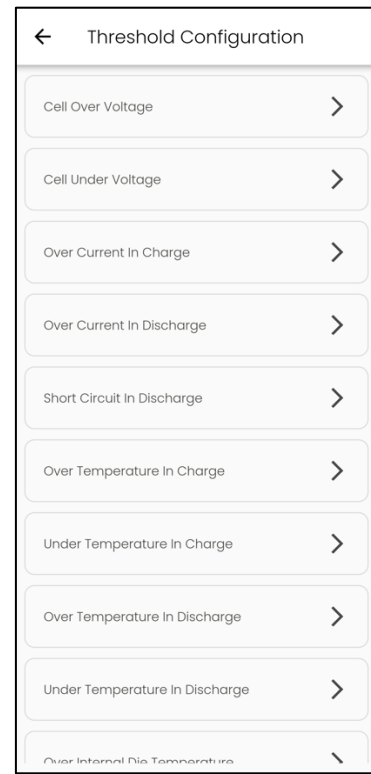

Figure 9 Threshold Configuration.
- In the mobile application, go to Settings and select RESET CALIBRATION (refer to *Figure 9*).